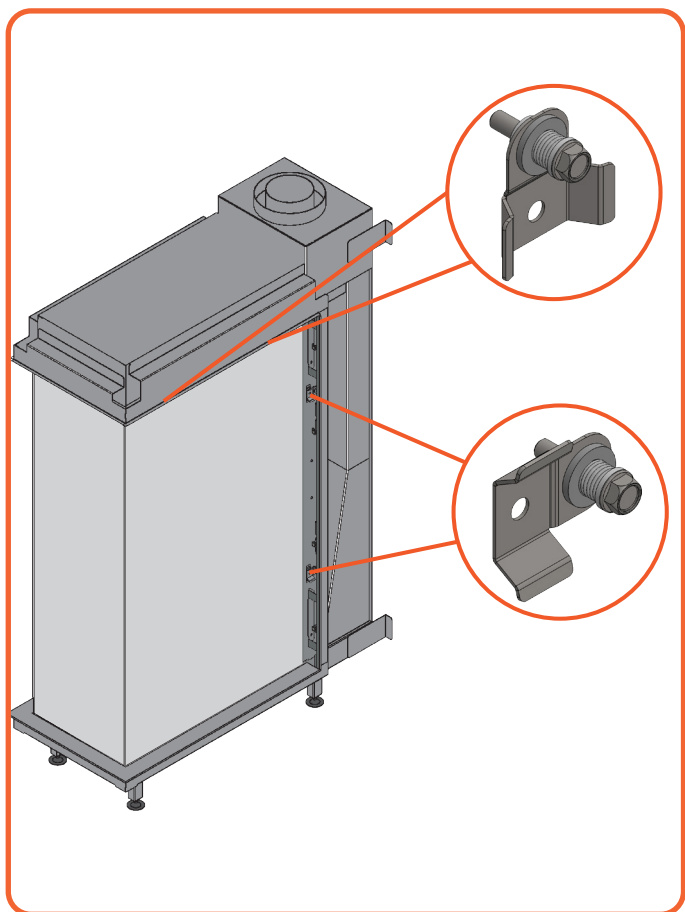

Figure 9.6 | Rotate glass clamps
- Rotate the glass clamps to free the glass, see Figure 9.6. The Sky S has only 1 clamp on the side instead of two.
- Remove the glass brackets on the side, see Figure 9.6.